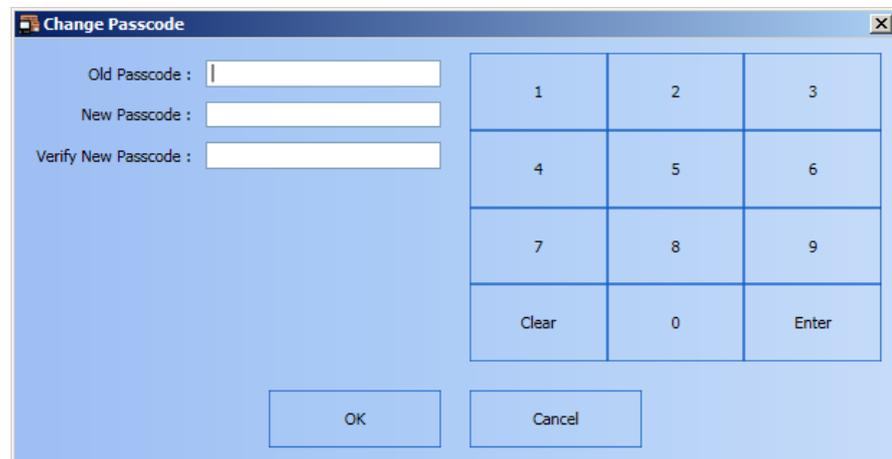

Figure 7-5 Passcode Change Dialog Box
2. In the **Login** dialog box, click **Change Passcode**. A **Change Passcode** dialog box (Figure 7-5) prompts you to change your passcode.